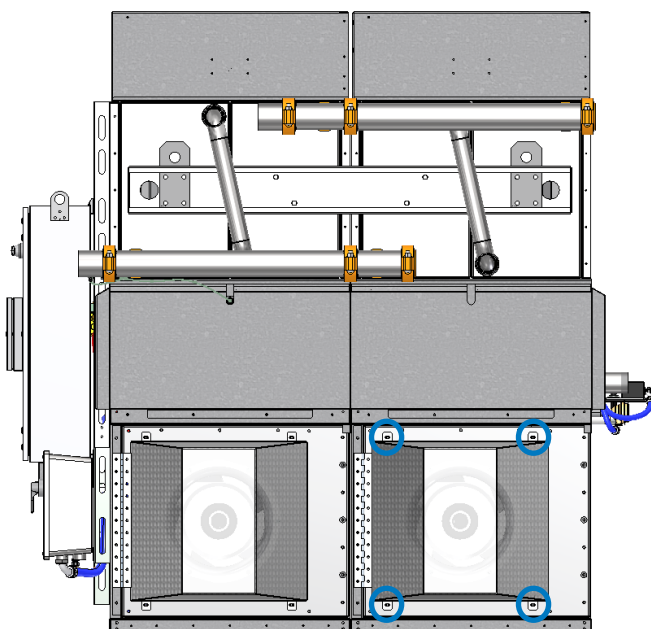

Figure 24b. Fan Guard Installation Step 2
2. Place and align the fan guard mounting hole with the fan panel holes. Secure the fan guard with fasteners from step 1. See **Figure 24b**.